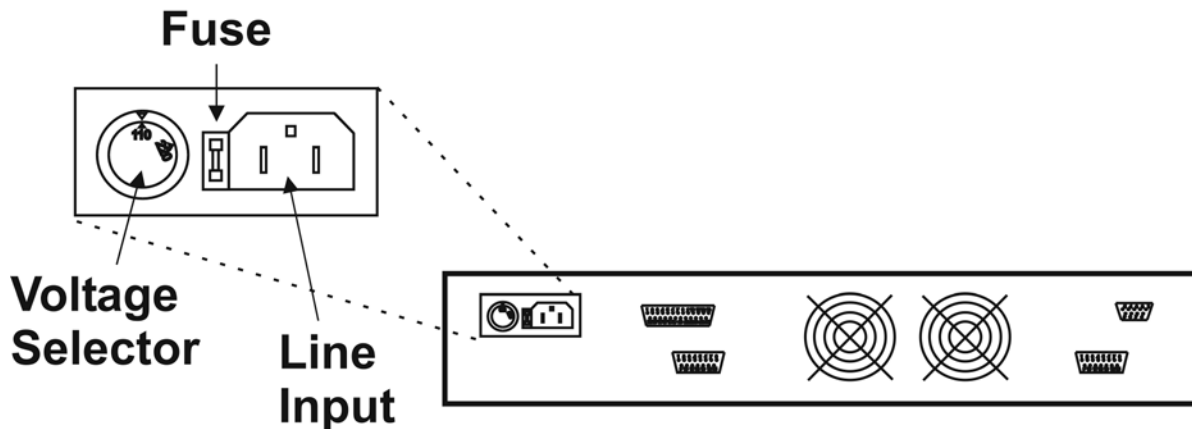
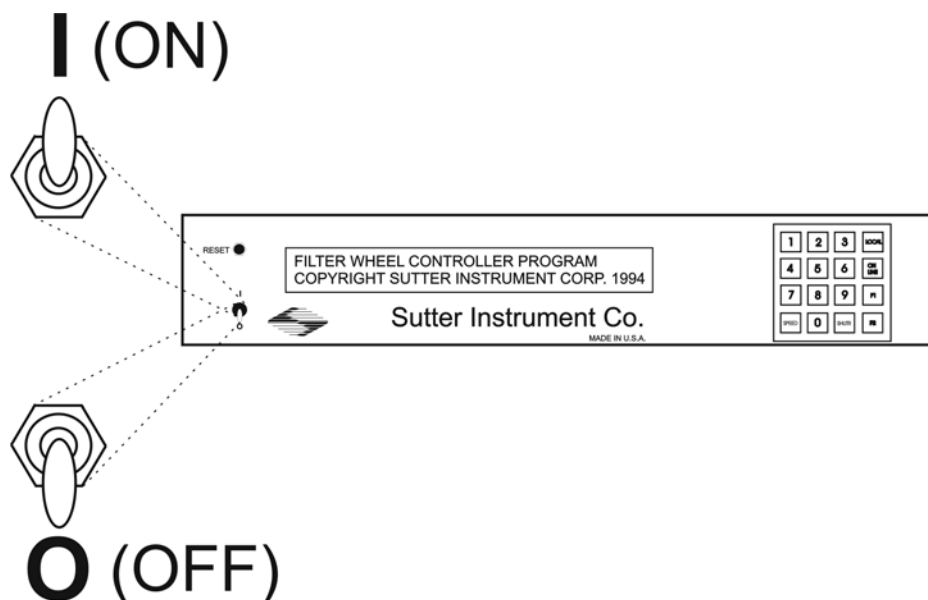

Figure 2-1. Lambda 10-2 Cabinet (rear view).
Figure 2-2. Lambda 10-2 Cabinet (front view)
The power cord provided with the Lambda 10-2 connects to the Power Entry Module located on the back of the unit (see Figure 2-1). This Module also includes the Line Fuse and Voltage Selector Switch.
Make certain that the Lambda 10-2 controller is properly connected to the mains power (refer to Section 2.3.1 and to Figure 2-1 and Figure 2-2).
1. Turn on the power using the ON/OFF switch on the front panel of the Lambda 10-2 controller cabinet (see Figure 2-2). The controller will briefly display an initialization screen and the filter wheel will automatically go to the “Home” (0) filter position. The current filter position will appear on the controller front panel display.